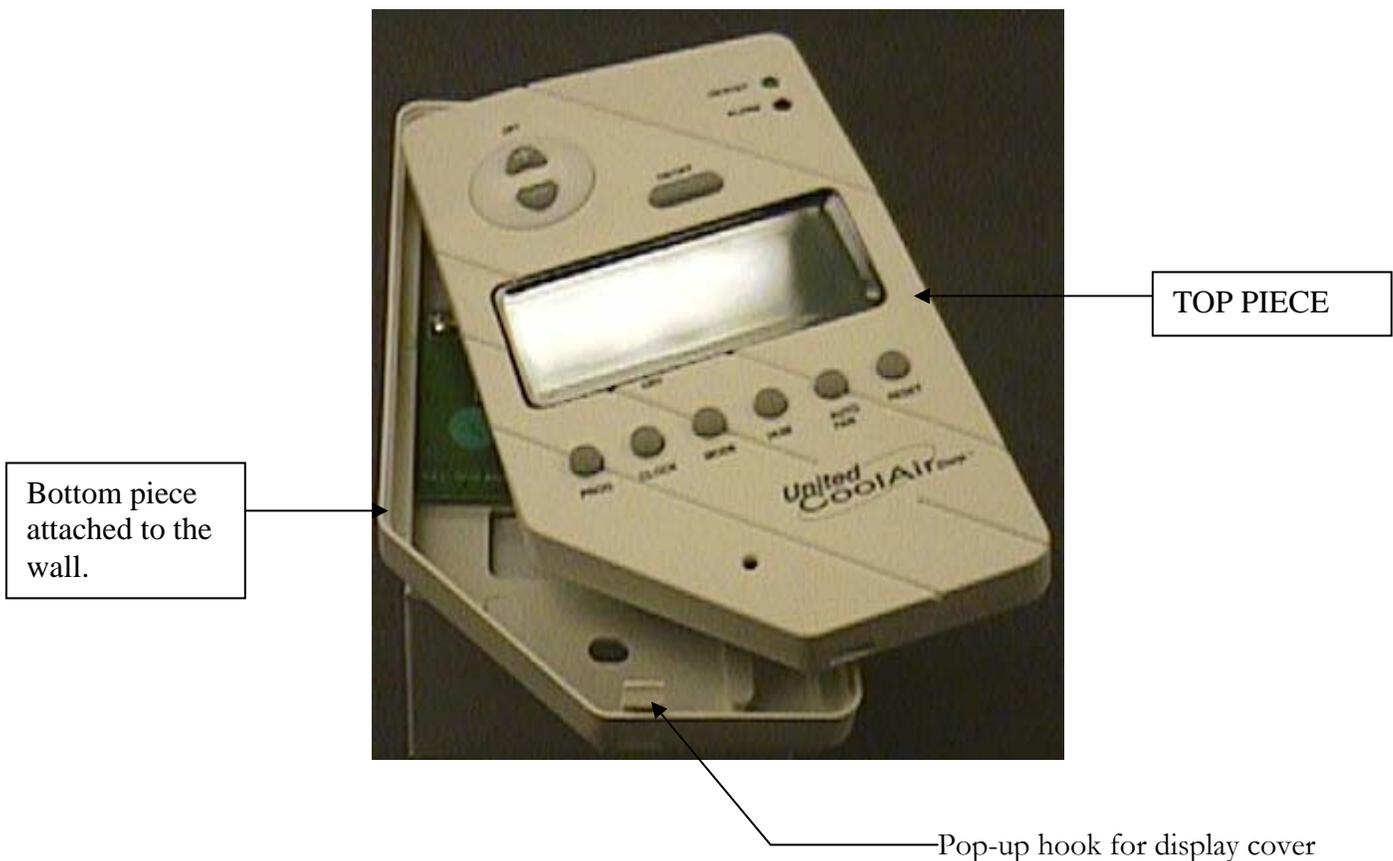

Fig 5 OPENED DISPLAY SHOWING POP-UP HOOK
The two pieces are connected using a pop-up hook, to open, use a small flat screwdriver to push the hook inwards and then lift the top piece. (See Fig 5)
Step 2. Remove the top piece. (See Fig 5). The top piece LCD is connected to the board with a ribbon cable that can be separated by gently pulling on the plug at the board.